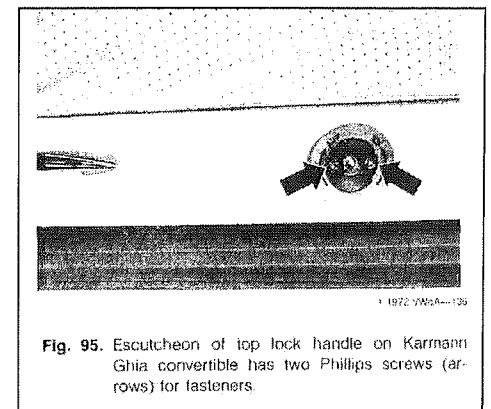

Fig. 95. Escutcheon of top lock handle on Karmann Ghia convertible has two Phillips screws (arrows) for fasteners.
3. Remove escutcheon for handle (Fig. 95).